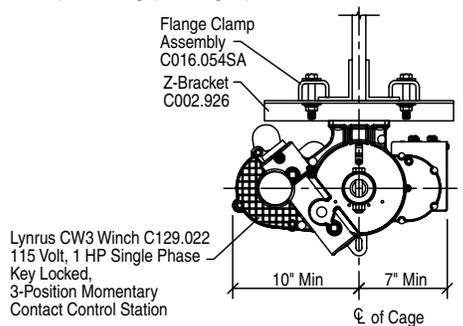

Figure 1
- ① Verify overall height and width with shop drawing to determine possible discrepancies.
- ② Attach winch support angles to winch and install winch per location shown on shop drawing (see Fig. 1).